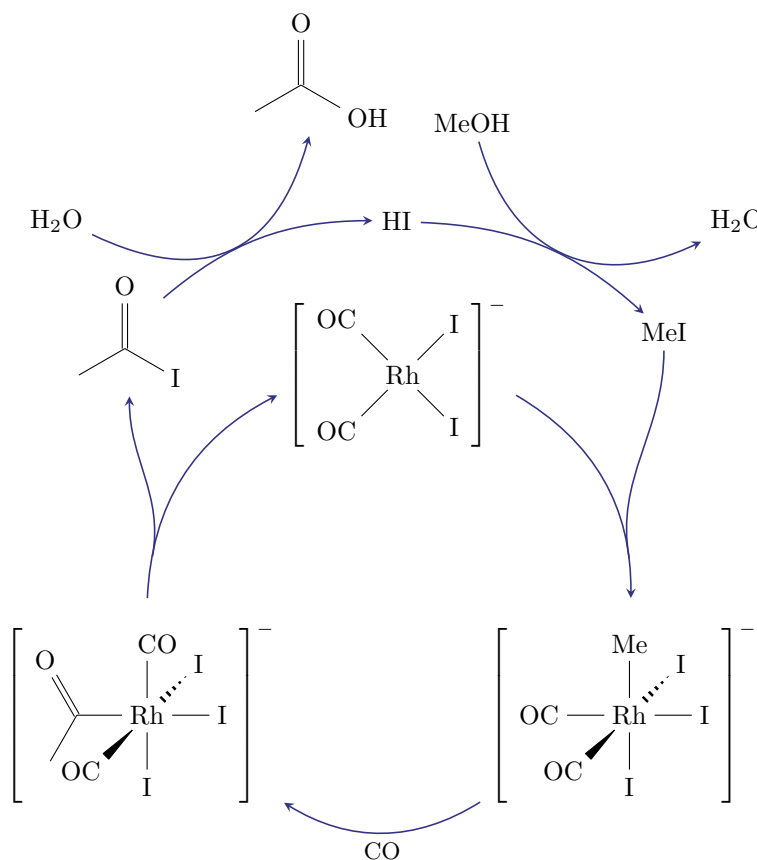

Figure 4.5: Carbonylation mechanism.
- The only difference between this and the Monsanto acetic acid process (Figure 4.5) is that in the nonorganometallic cycle, we add acetic acid and get acetic anhydride, and then add methyl ester and get acetic acid.